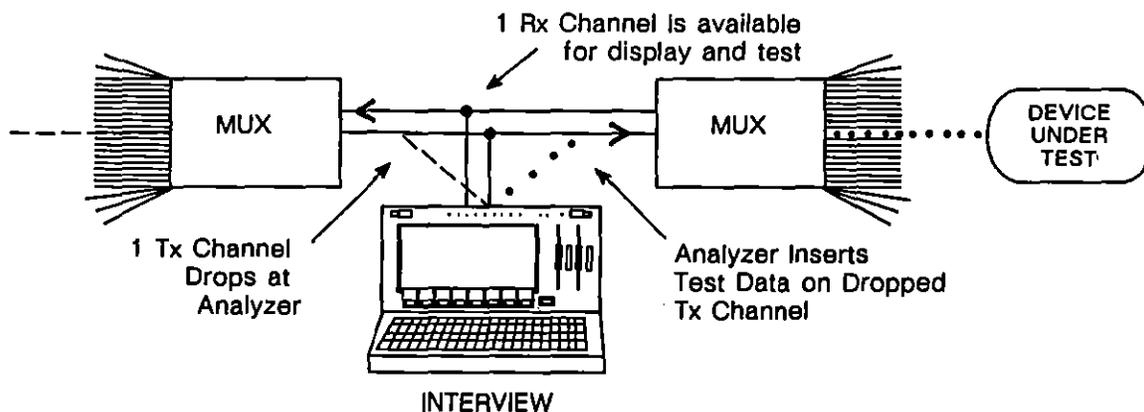

Figure 52-16 The INTERVIEW 7000 Series in drop-and-insert mode.
2. *Drop-and-insert mode.* This type of transmission (illustrated in Figure 52-16) is useful for testing a single channel over an active T1 circuit. If the user selects drop-and-insert mode, the INTERVIEW receives all 24 channels in both directions (left to right and right to left in Figure 52-16). The transmissions on 23 of the left-to-right channels are terminated and passed through (regenerated) outbound. The remaining channel is terminated, and higher-layer test data is inserted into the corresponding outbound channel. All the while, T1 protocol is maintained at the physical level. The INTERVIEW recalculates the correct CRC for the superframe. Data on the Frame Data Link is relayed without change. Drop-and-insert mode may be used in either direction, towards DTE or DCE. Statistics are maintained on the selected channel.
The INTERVIEW should be set up to *bridge* the data moving right-to-left in Figure 52-16. See the discussion of **BRIDGED** as a *Termination* option in Section 52.5(B).